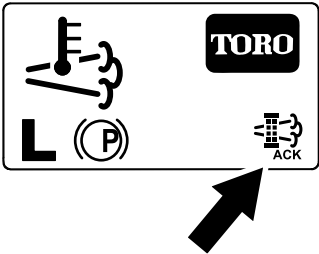

Figure 89
- The InfoCenter displays the home screen and the regeneration acknowledge icon (Figure 89) appears in the lower right corner of the screen as the regeneration processes.